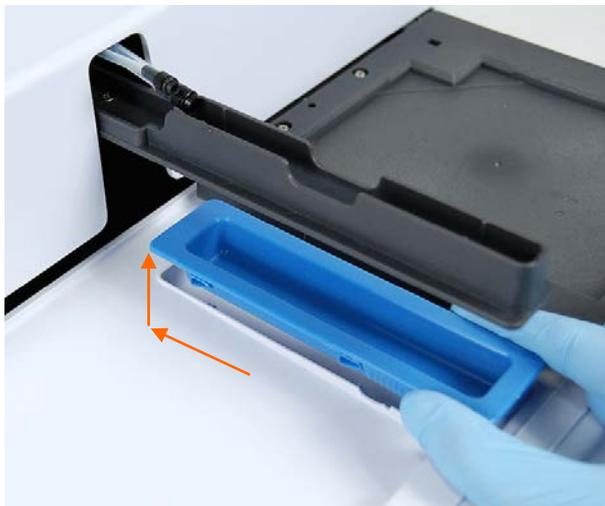

Figure 36. Removing the priming vessel
2. Lift the priming vessel up and remove it (Figure 36).